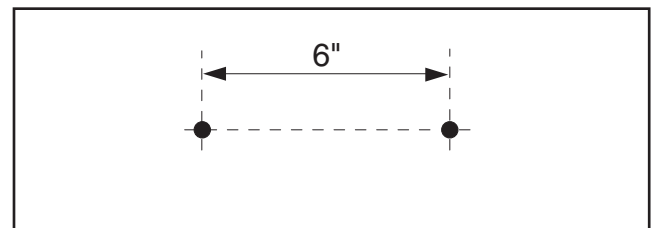

Figure 6. Bench grinder mounting bolt pattern.
1. Once you have confirmed that your grinder is running properly, mount it to a workbench through the holes in the base using the dimensions in **Figure 6**. DO NOT overtighten the mounting bolts or you will crack the base.